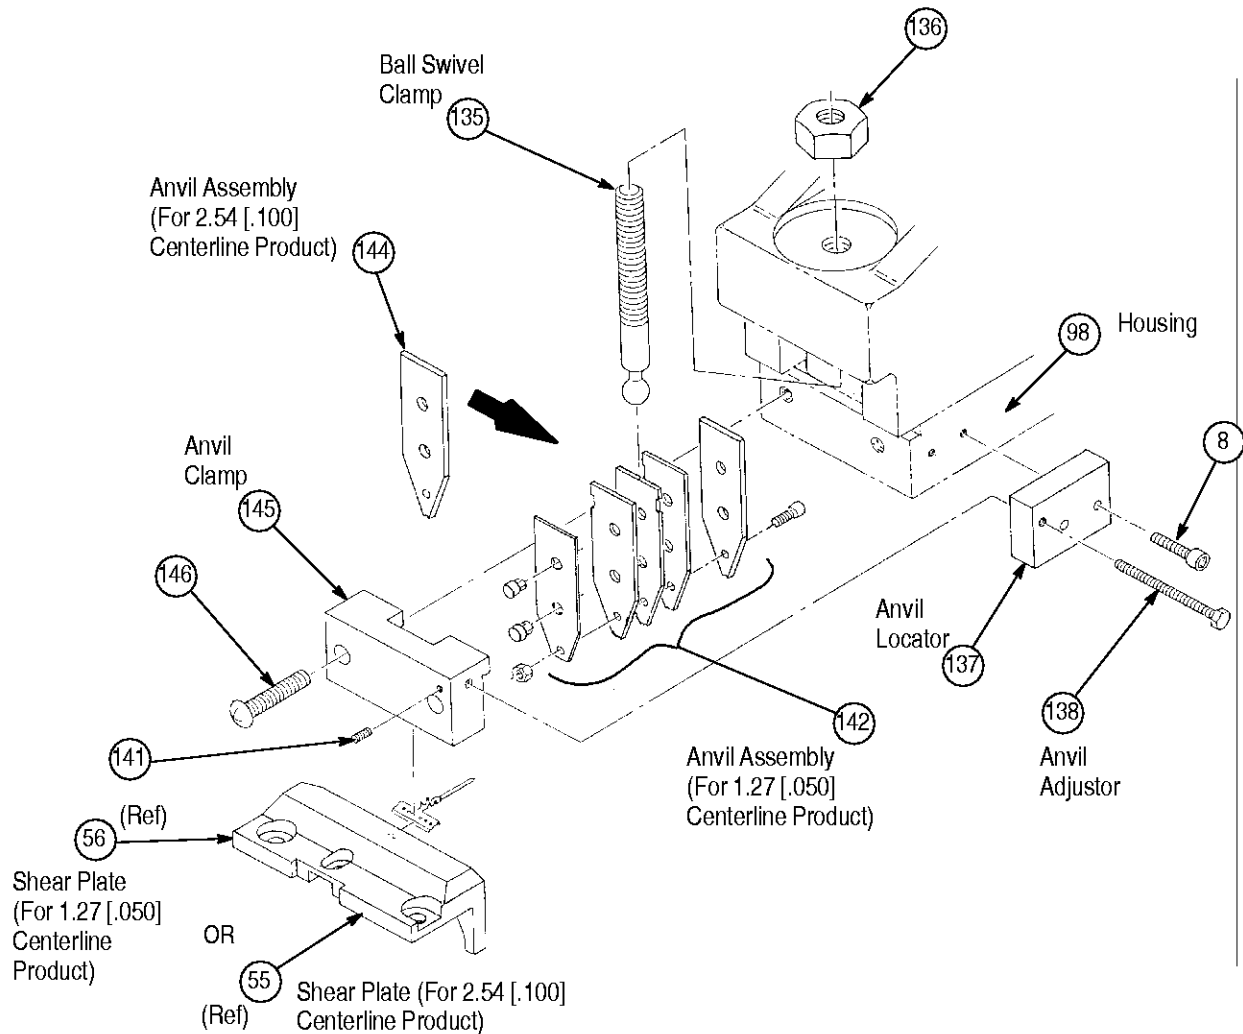

Figure 21
## 8.2. Anvil Replacement (Figure 21)
- Added Figure 21 to Revised Section 8